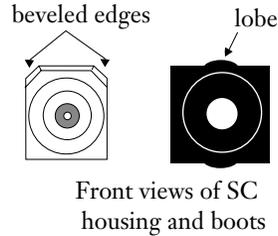

Figure 5-55
- a) Slide the boot up the back of the connector until it reaches the cam (Figure 5-55).